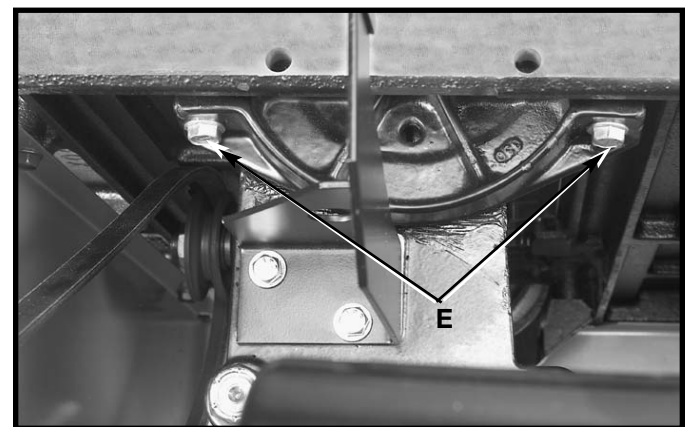

Fig. 51
1. Lower blade. Remove blade guard and table insert. With a 1/2" wrench, loosen the 4 front and rear trunnion mounting bolts (E) Fig. 51. **NOTE:** Only the 2 rear trunnion mounting bolts are shown.
3. To check blade alignment, follow (**CHECKING BLADE ALIGNMENT**) procedure until proper alignment is achieved. **Tighten 4 trunnion bolts (E).**
4. Check blade alignment again after tightening bolts to confirm alignment. If alignment is off, loosen the 4 trunnion bolts (E) and repeat the above steps until proper alignment is achieved **with bolts fully tightened.**